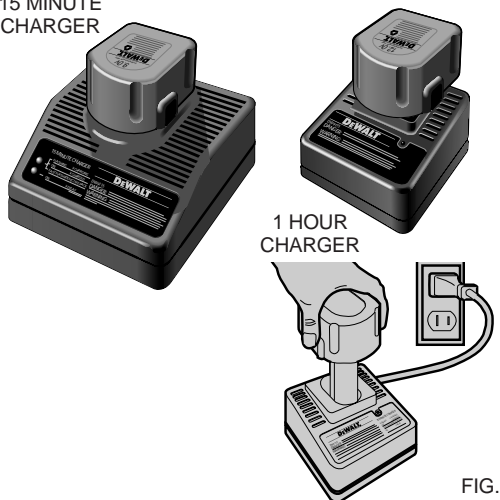

FIG. 1
DeWALT chargers require no adjustment and are designed to be as easy as possible to operate. Simply place your battery pack into the receptacle of a plugged in charger (FIG.1) and it will automatically charge the pack.
2. Insert the battery pack into the charger, as shown in FIG.1, making sure the pack is fully seated in the charger. The red (charging) light will blink continuously indicating that the charging process has started.
2. Insert the battery pack into the charger, as shown in FIG. 1, making sure the pack is fully seated in the charger. The red light will blink and the charger will beep once indicating the charging process has started.